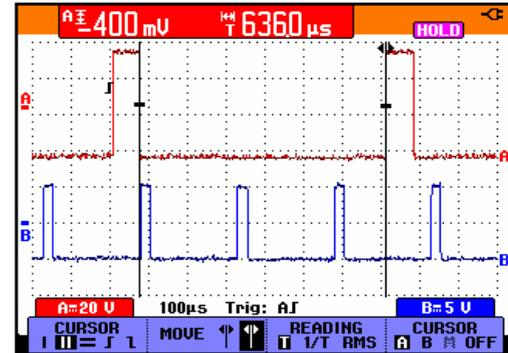

Figure 25. Time Measurement with Cursors
- The screen shows the time difference between the cursors and the voltage difference between the two markers. (See Figure 25.)